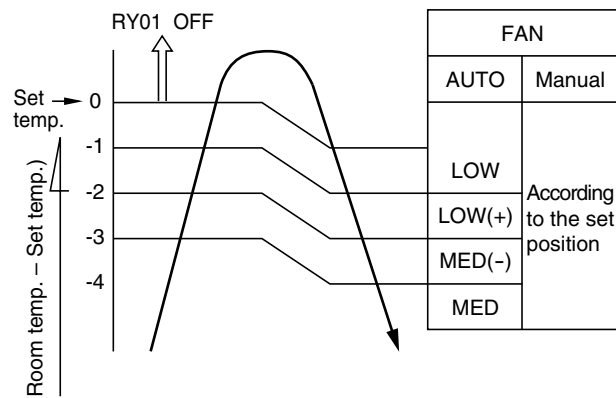

Fig. 7-4-2
- (2) Relays RY01 and RY02 are turned on to energize the outdoor unit, and a heat operation is carried out. The indoor fan motor operates as shown in Fig. 7-4-2, when the FAN is set to AUTO.